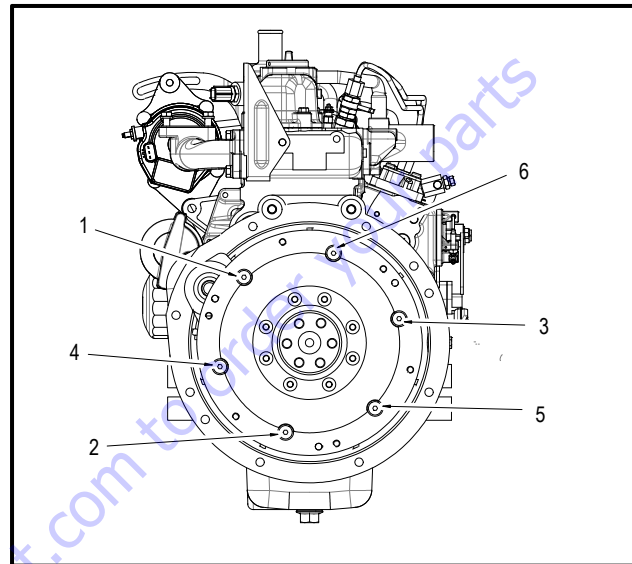

Figure 3-65. Clutch Adapter Plate Torque Sequence
2. Using the pattern shown in Figure 3-65, Clutch Adapter Plate Torque Sequence, work back and forth around the pressure plate turning each bolt not more than 3 turns before turning the other bolts to a similar level.